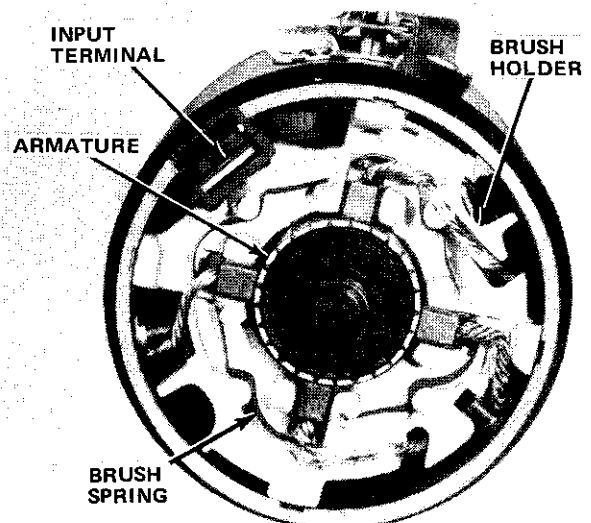

Fig. 1F-17 Brush Wire Routing
- (1) Insert armature into frame. Install drive yoke and pivot pin. Drive yoke must engage lugs on drive assembly.
- (2) Insert drive yoke return spring into recess in drive housing. Install housing to frame.
- (3) Install brush holder. Be sure depression in holder aligns with rubber boot on terminal.
- (4) Insert brushes into brush holder. Refer to figure 1F-17 for proper wire routing. Install brush springs.